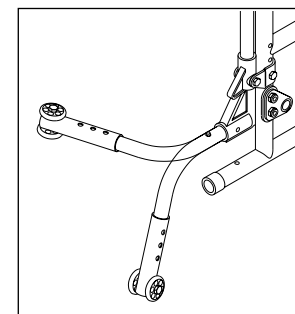

Figure 33
4. Turning Anti-Tip Tubes Up (Fig. 33)